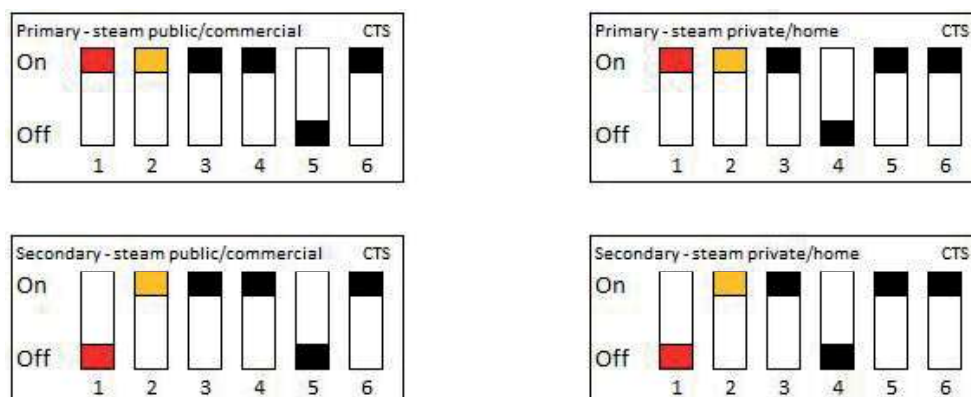

Fig. 15
When more than one generator is connected together, one of them is set up to be the "Primary" (factory setting) and is the one which controls the other generators. The other units are then set up to be "Secondary" in accordance with the DIP schematic diagram at Fig. 15.
3. Select a "secondary" steam generator and change the DIP switch settings to "primary" according to the appropriate type. Refer to Fig. 15. Then connect the control panel to the new "primary". A new "initial setup" will be requested, as the generator had not been set up as a "primary" earlier.